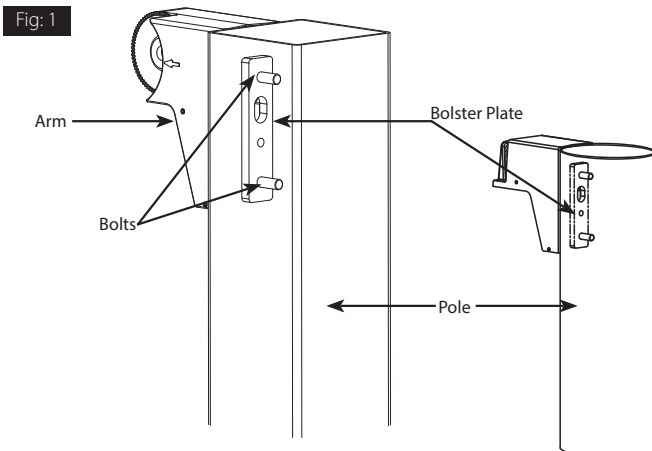

Fig: 2
2. Open the **Arm Cover** (*Fig. 2*) and feed the fixture and supply wires into the **Arm Wiring Compartment** to make the wire connections as per wiring diagram (*Fig. 21*). Make appropriate wire connections as per NEC.
3. To adjust fixture angle, loosen the **Locking Bolt** as shown in Fig. 2. Swivel fixture to desired angle and tighten **Locking Bolt**.